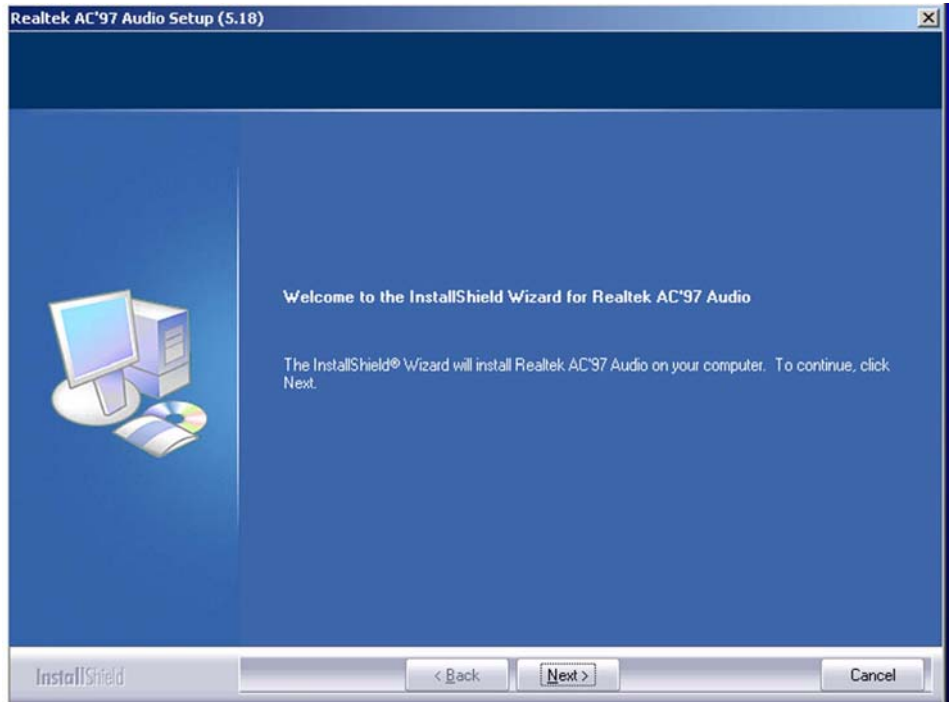

Figure 6-16: Audio Driver Welcome Screen
**Step 6:** After install shield is prepared, the welcome screen shown in **Figure 6-16** appears. To continue the installation process, click the “NEXT” button. The install shield starts to configure the new software as shown in **Figure 6-17**.